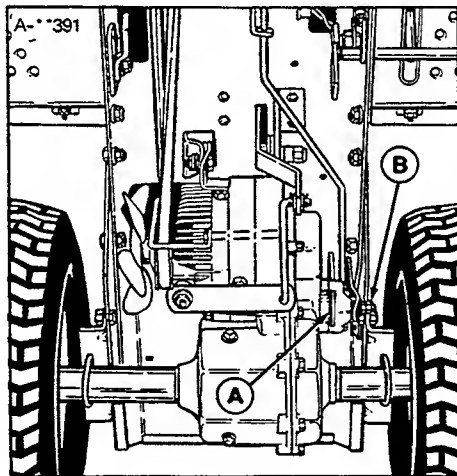

Figure 27. Brake Adjustment
2. Put a feeler gauge just behind brake disc (A, figure 27). Clearance between disc and pad should be 0.010 inch (0.254 mm). If not, tighten or loosen the adjustment nut (B) to achieve correct dimension. Some models are equipped with two nuts. If so, loosen the outer nut, adjust the inner nut as necessary, then tighten the outer nut.